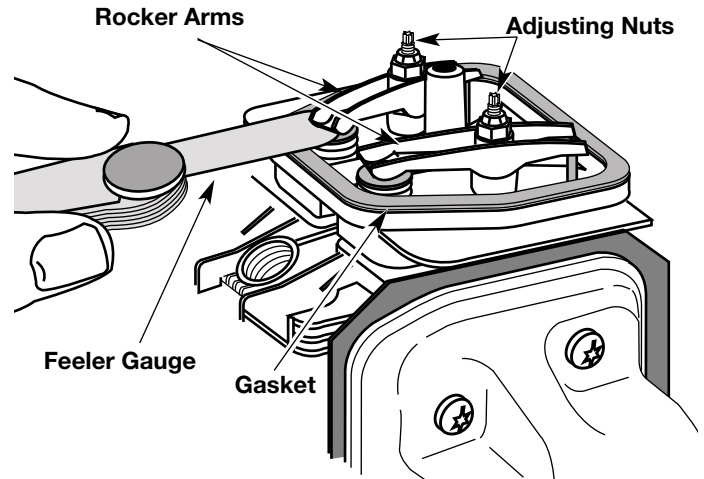

Fig. 53
9. Slide the feeler gauge between the rocker arm and the valve return spring. Measure the clearance between the valve stem and rocker arm (Fig 53). Do both intake and exhaust valves.
- a. Turn the adjusting nut using a 5/16 inch (8 mm) wrench or nut driver (Fig. 53).